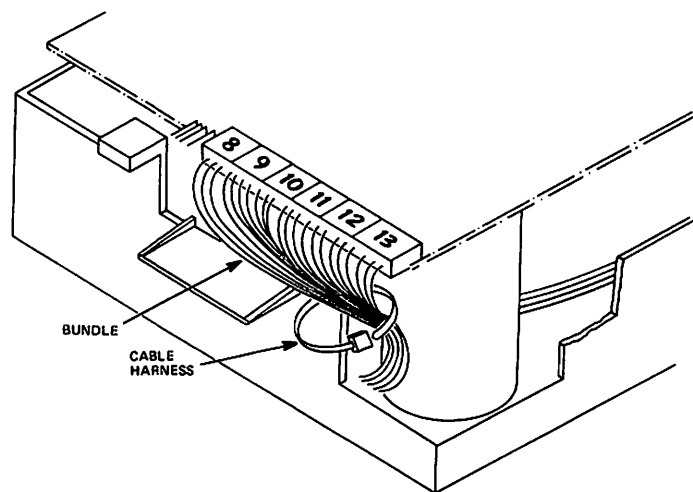

Figure 5-17
5.9.13 Harness the index emitter sensor cables and the index detector sensor cables to the bundle (see Figure 5-17) located at the rear of the disk drive.